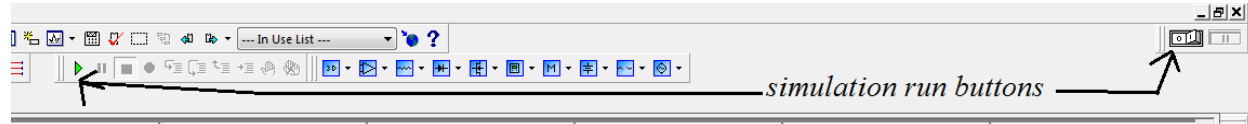

Figure 4: Simulation Run Buttons
- Click the green **play (run)** button or the **light switch** in the upper right hand corner to turn on the MultiSim interactive simulation (see Figure 4).